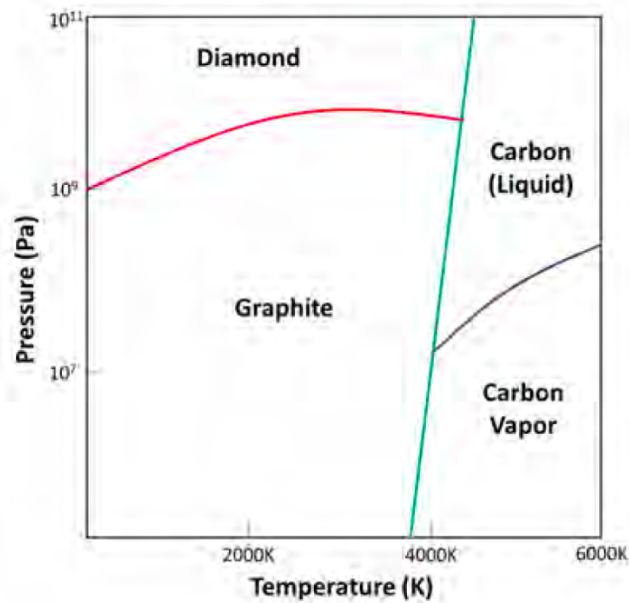

Fig. 2.5: Pressure-temperature diagram for pure carbon.
- **FIG. 2.5:** P-T DIAGRAM FOR PURE CARBON. SHOWS TWO TRIPLE POINTS.